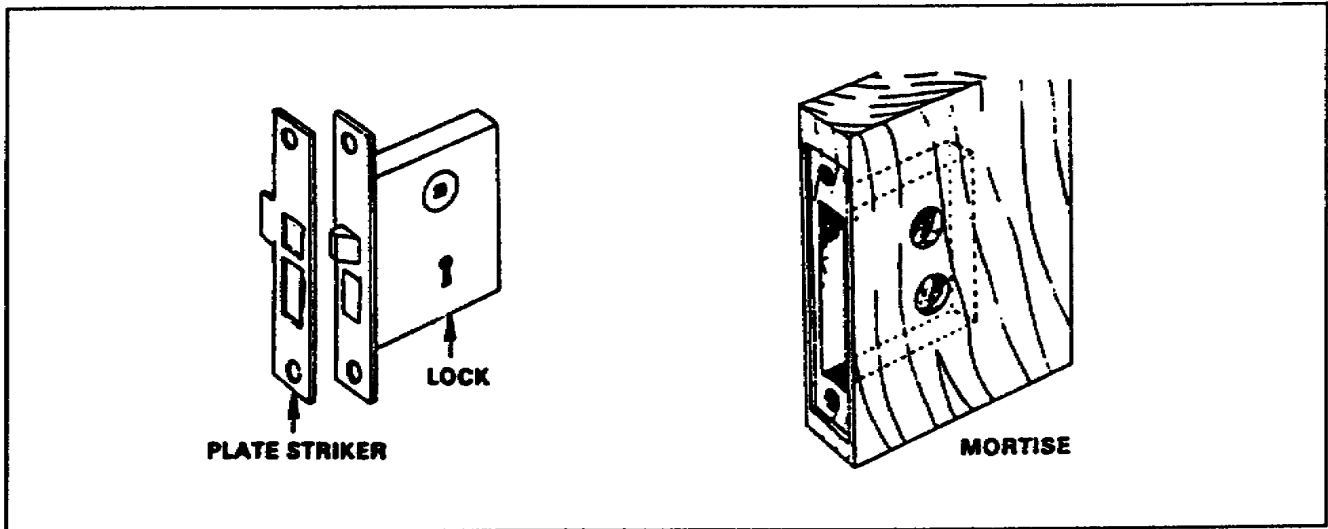

Figure 1-60. Mortise lock
c. Mortise Locks. Mortise locks (Figure 1-60) are used mainly on front or outside doors for high security. The present trend is away from using mortise locks because of the difficulty and time required to install them.